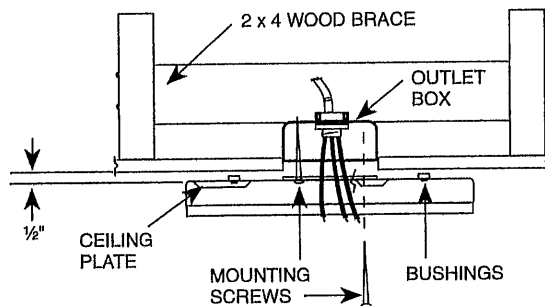

FIGURE 4
**A.** Drill two pilot holes,  $\frac{9}{64}$ " diameter in the 2 x 4 brace at the outermost holes in the outlet box. Install the (3) rubber bushings into the top of the ceiling plate. Thread the wire leads through the center hole in the ceiling plate and attach the ceiling plate to the brace. Use (2) #10 x 3" woodscrews and washers for mounting. See Figure 4. Do not tighten screws at this time. Leave a  $\frac{1}{2}$ " gap between the ceiling plate and the ceiling for insertion of the airplane decal.